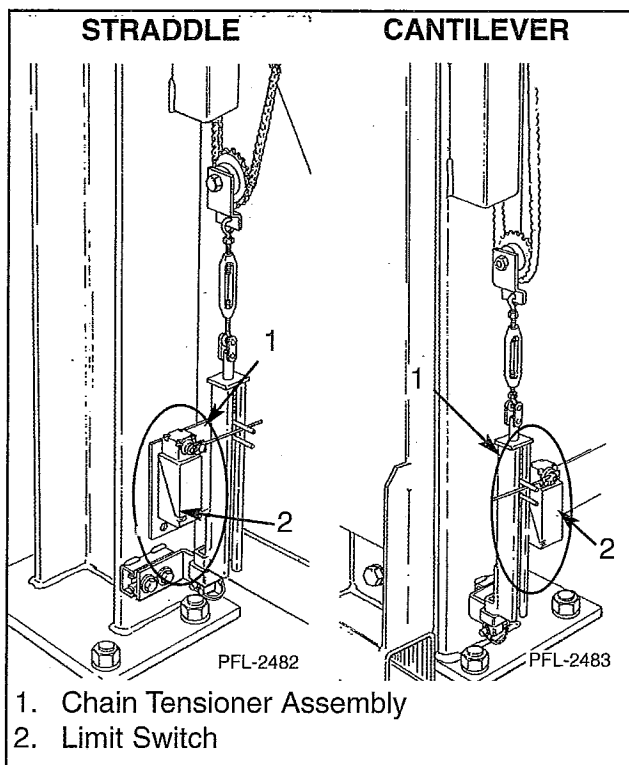

Figure 21
Weld the plate to the diagonals if the lift is a straddle lift or to the carriage upright channel if a cantilever lift. See Figures 21 and 22.
9. Insert chain tensioner assembly into mounting tube near bottom of the columns. Notice that the limit switches are away from the carriage. See Figure 21.